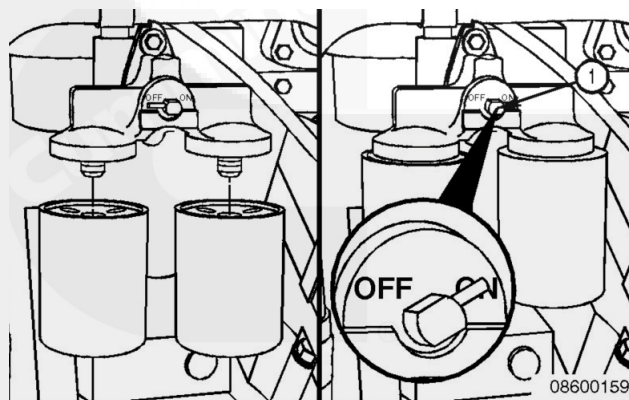

Figure 7-29 Replace the coolant filters
6. As shown in Figure 7-29, thread each coolant filter clockwise and rotate into place until the gasket makes first contact with the filter head. Turn the coolant filter an additional $\frac{1}{2}$ to $\frac{3}{4}$ of a turn after contact.